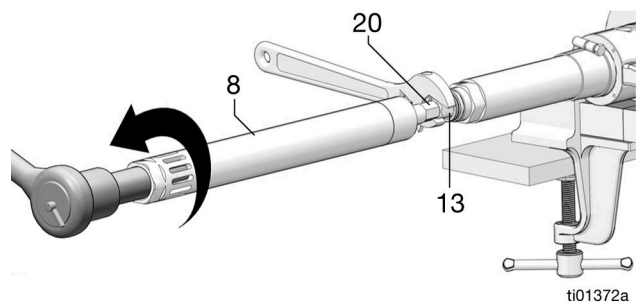

FIG. 8
- Use a 3/4 in. socket to loosen and unthread the shovel rod (20), leave the shovel rod (20) inside of the inlet pump cylinder (8) and set aside (FIG. 8).